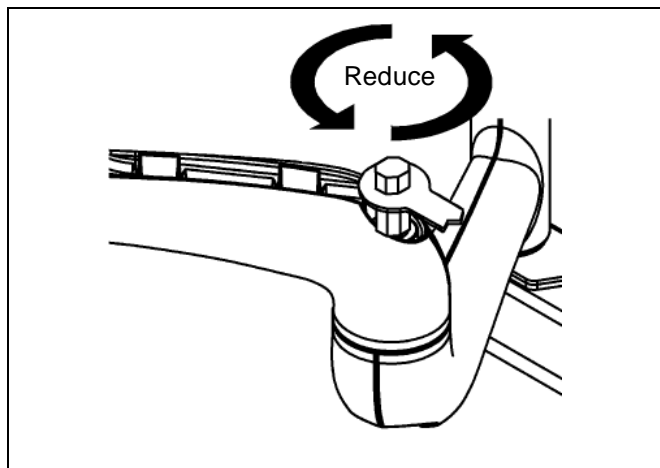
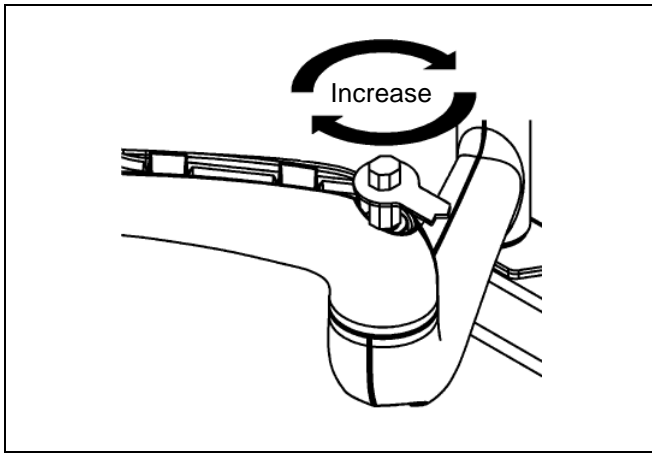

Figure 17
Figure 18
3. Using the wrench provided with the mount, turn adjustment bar clockwise to increase swing arm tension or counterclockwise to reduce swing arm tension. (See figure 17) and (See figure 18)